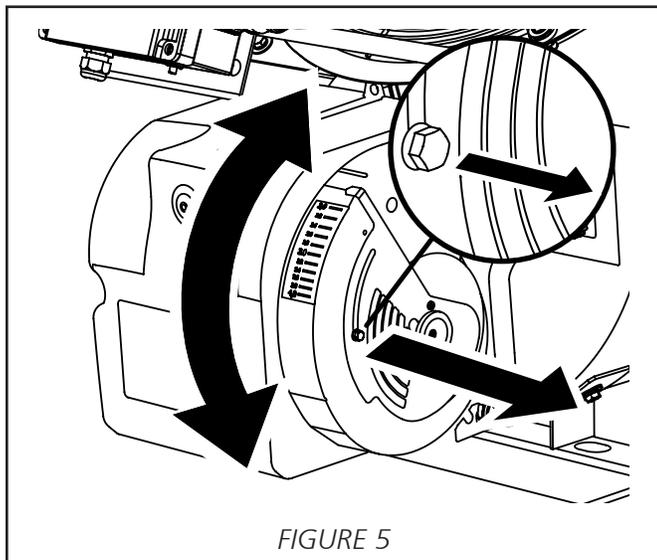

FIGURE 5
3. Adjust the air damper of the burner according to your needs. See Figure 5.